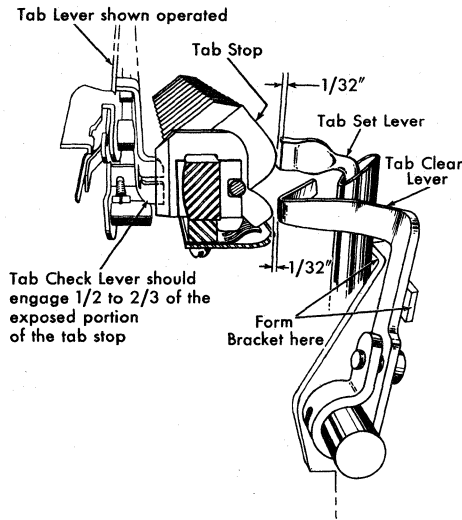

Figure 47. Tab Set and Clear Adjustment
2. Form the tab set bracket (Figure 47) so that when the tab stops are in the non-operating position, there is a clearance of about 1/32\" between the tab stops and the tab set lever.
3. Form the tab clear bracket so that, when the tab stops are in the operating position, there is a clearance of about 1/32\" between the tab stops and the tab clear lever (Figure 47).